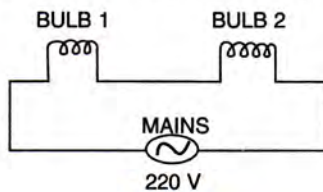

Fig. 9.10
- (ii) The arrangement of two identical bulbs in series with the mains is shown in Fig. 9.10. In this